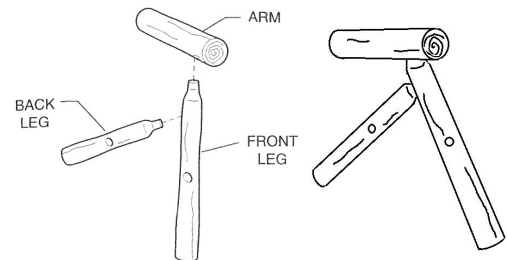

figure 3
STEP 3 Make a right leg assembly and a left leg assembly by inserting the dowel end of back leg into angled hole of front leg. The drilled holes on each leg should face the same direction as shown in figure 3. Put arms onto legs by inserting dowel end of front legs into the hole in the arms. Drive arm onto leg assembly as far as possible.